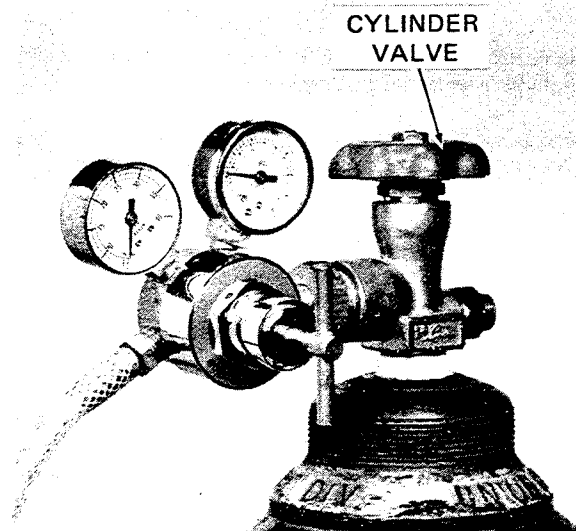

Figure 37
1. Turn the gas cylinder valve OFF (clockwise). See Figure 37